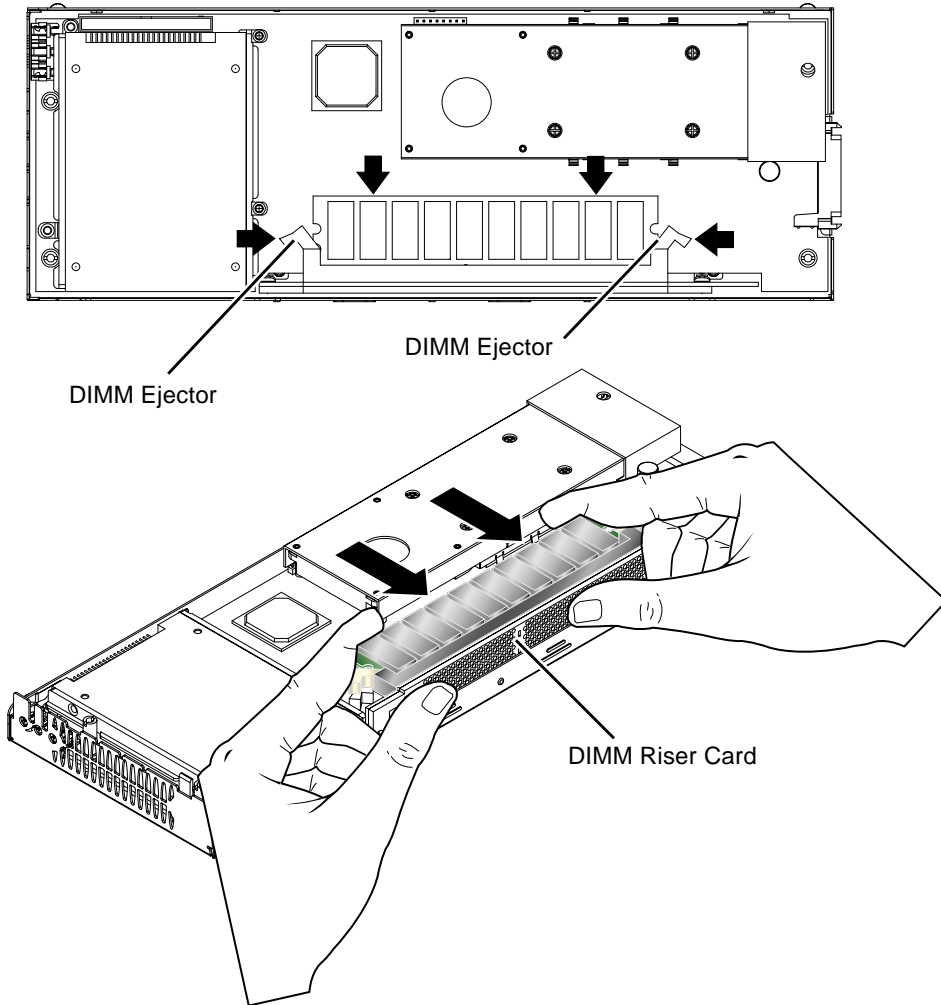

FIGURE 4 Engaging the DIMM Ejectors
3. **Press the DIMM until the DIMM ejectors engage on the edges of the DIMM (FIGURE 4).**